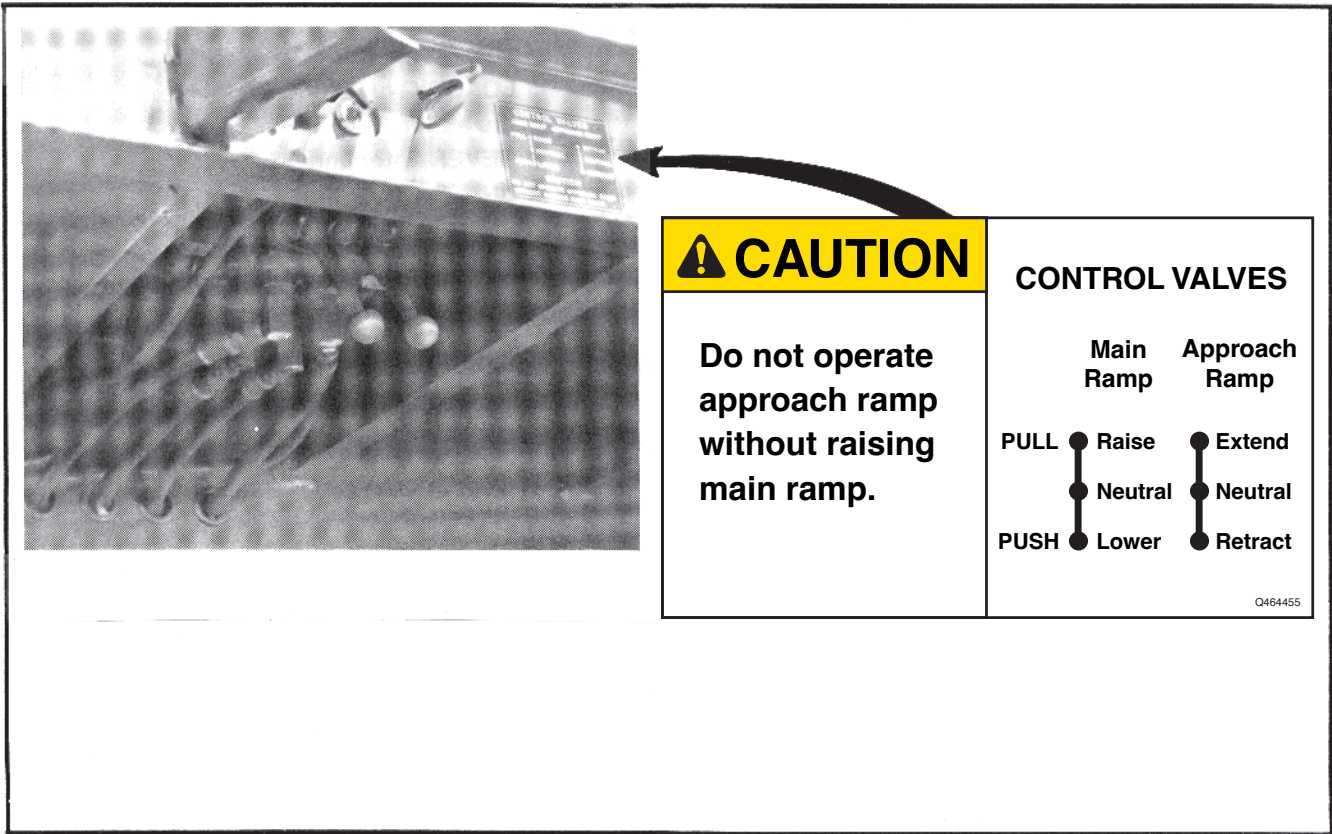

FIGURE 1-2. OPERATION DECAL - MODEL SR TRAILER - WITH MAIN AND APPROACH RAMPS ONLY.
[SEE FIGURES 1-2 THROUGH 1-10].
c. **PULL** the **MAIN** ramp control valve handle to the **RAISE** position and **FULLY** raise the main ramp [SEE FIGURES 1-2 and 1-3].
d. PUSH the APPROACH ramp control valve handle to the EXTEND position and FULLY raise and extend the APPROACH ramp [SEE FIGURE 1-2 and 1-4].
e. PUSH the MAIN ramp control valve handle in the LOWER position and FULLY lower the MAIN and APPROACH ramps downward UNTIL the tip of the APPROACH ramp rests firmly on the ground OR loading dock [SEE FIGURES 1-2 and 1-5].
j. PULL the MAIN ramp control valve handle in the RAISE position [SEE FIGURE 1-2]. FULLY raise the MAIN and APPROACH ramp FROM the ground OR loading dock.
k. PUSH the APPROACH ramp control valve handle to the RETRACT position [SEE FIGURE 1-2]. FULLY lower the APPROACH ramp into the TRAVEL position under the trailer main ramp UNTIL a distinct “BUMP” is heard and the APPROACH ramp is AGAINST the stops.
l. PUSH the MAIN ramp control valve handle to the LOWER position. Lower the MAIN ramp downward UNTIL the MAIN ramp is SECURELY against the compression blocks [SEE FIGURE 1-2].